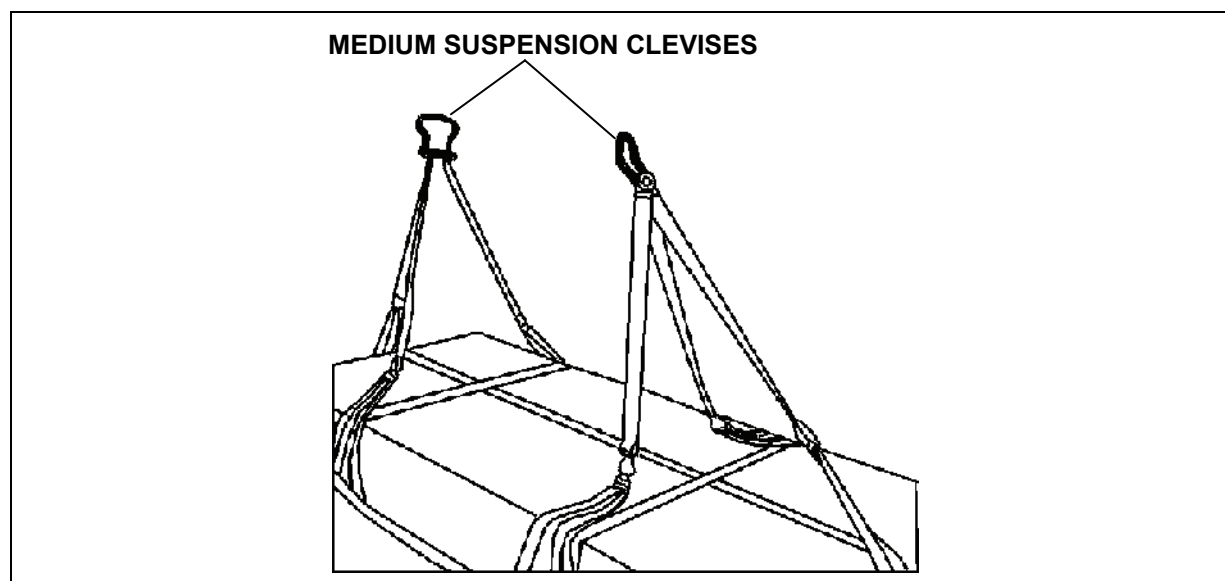

Figure 8-16. Suspension Webs and Clevises Installed
- Attach a suspension web to each of the six D-rings of the sling assembly. Attach a medium suspension clevis to the front set of three suspension web D-rings and a medium suspension clevis to the rear set of three D-rings (Figure 8-16).